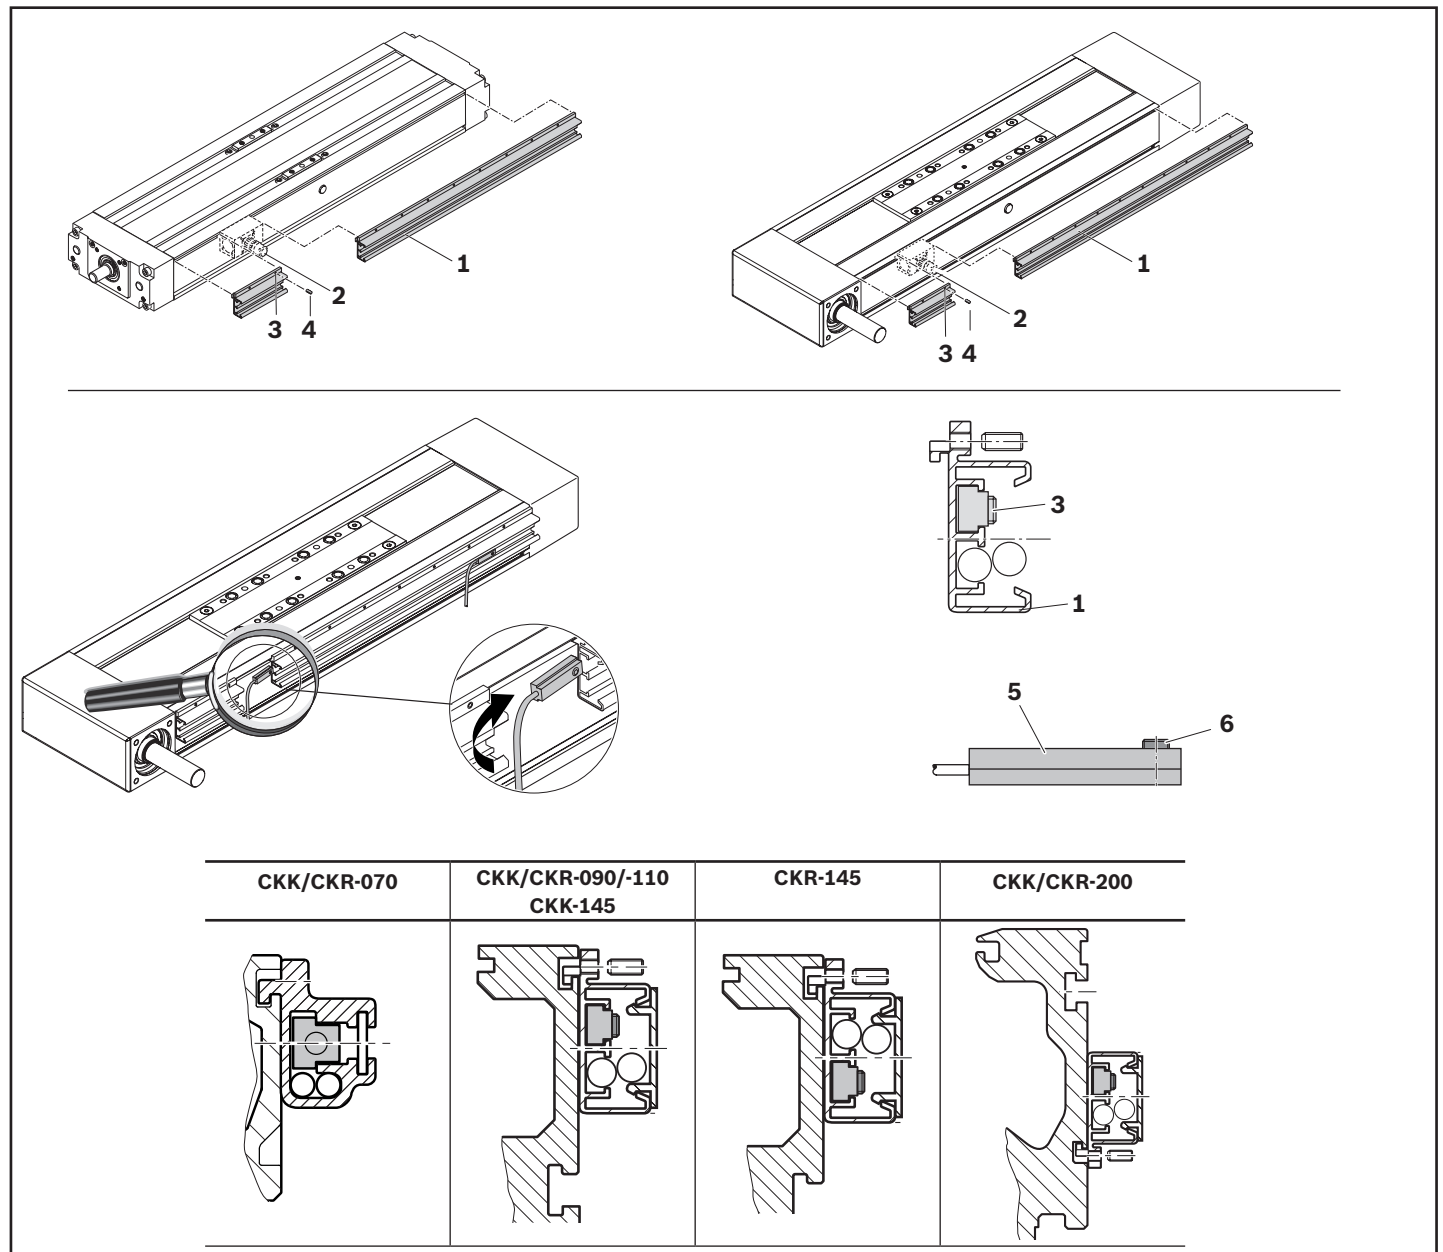

Fig. 7: Mounting the cable duct/magnetic sensor
1. Measure the length of the cable duct (1), saw off and deburr it.
2. If necessary, make an additional fastening thread M 2.5 (3).
3. Suspend the cable duct without cover (pay attention to the correct position) and secure with the set screws (4) included.
- Fig. 7 shows CKR; mounting for CKK is identical.
1. Insert the sensor (5) into the cable duct (1) so that the set screw (6) of the sensor (5) points outwards.